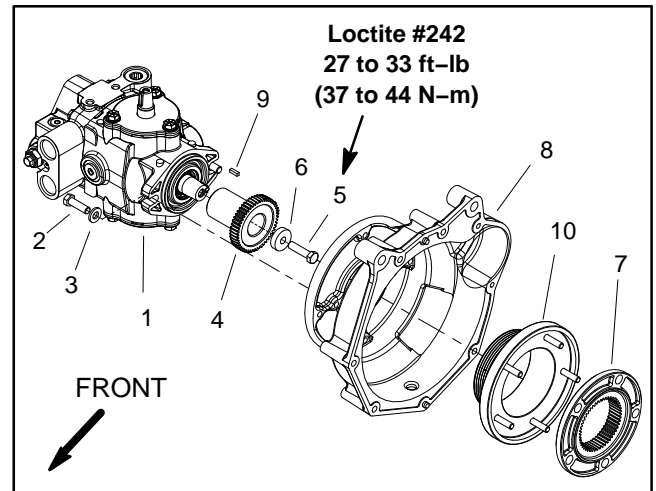
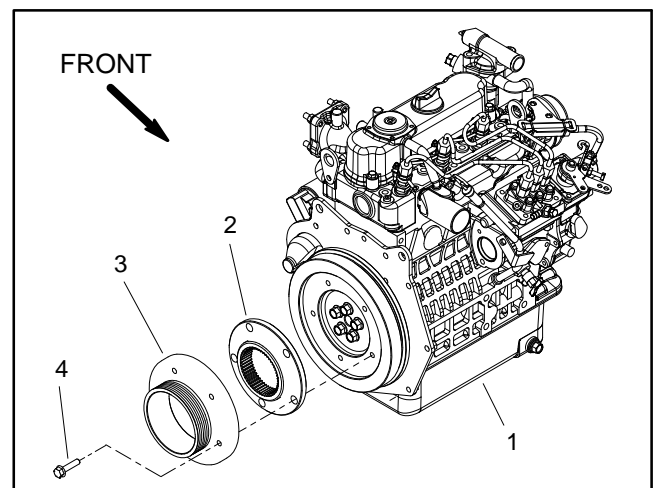

Figure 17
Figure 18
15. Slowly move the engine assembly away from the bell housing to allow the pump coupling to slide out of the engine coupling flange (Fig. 17). Once the engine has cleared the pump coupling, carefully remove the engine from the machine.
16. If required, remove engine support (item 23) from engine.
17. If required, remove generator drive pulley and coupling flange from engine flywheel (Fig. 18).
2. If engine support (item 23) was removed from engine, secure support to engine with removed fasteners.
3. If generator drive pulley and coupling flange were removed from engine, secure pulley and flange to flywheel with removed fasteners (Fig. 18).
6. Slowly move the engine assembly toward the bell housing to allow the pump coupling to slide into the engine coupling flange (Fig. 17). Route generator belt to pulley as engine is being moved into place.